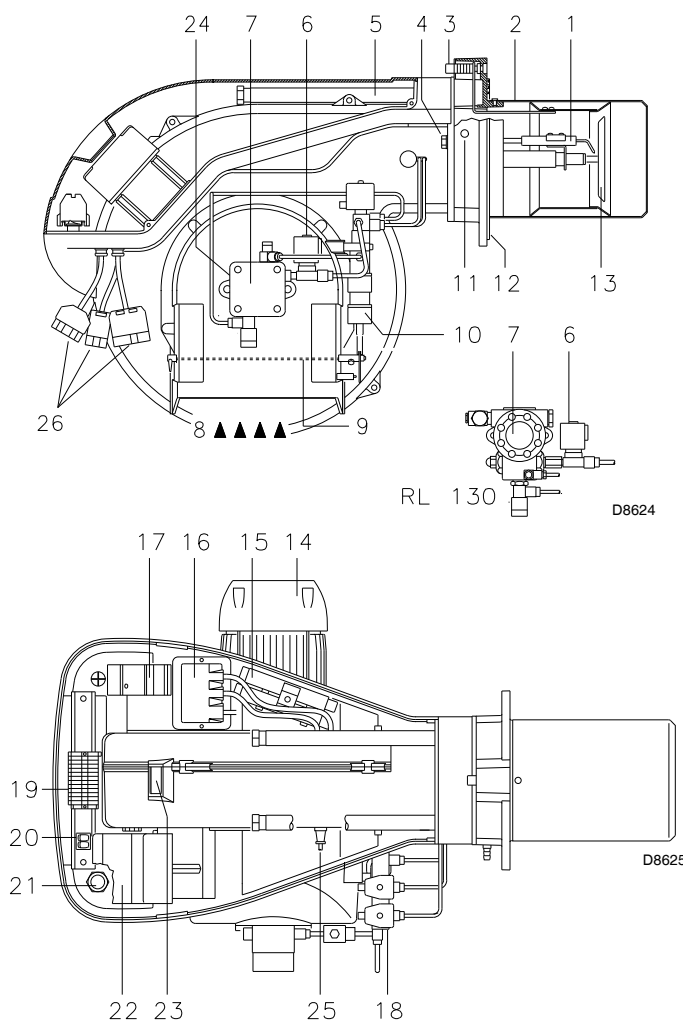

Fig. 5
- (1) Reference conditions: ambient temperature 20°C - Barometric pressure 1013 mbar - Altitude 0 m a.s.l.
(2) Pressure at test point 18)(Fig. 5 at page 13) with zero pressure in the combustion chamber and maximum burner output.
(3) Sound pressure measured in manufacturer's combustion laboratory, with burner operating on test boiler and at maximum rated output.
Control box lock-out: if the control box 22)(Fig. 5) pushbutton (red led) lights up, it indicates that the burner is in lock-out.
Motor trip: release by pressing the pushbutton on thermal cutout 17)(Fig. 5).
- 2 - Extensions 15)(Fig. 5) for slide bars 5)(Fig. 5)